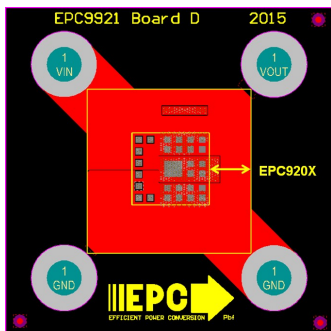

Figure 8: Top layer without filled thermal vias
1. Large copper planes should be connected to the development board to improve thermal performance as shown in figures 8 through 11. If filled vias are used in the board design, thermal vias should be placed under the device as shown in figure 8 to better distribute heat through buried inner layers. For a design without filled vias, thermal vias should be located outside of the pads on the development board.